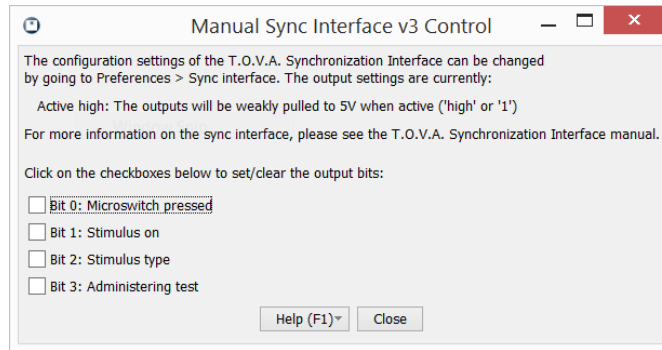

Figure 6: Testing the Sync Interface using the Manual Control dialog
3. Click on any of the four output checkboxes to activate the outputs of the sync interface (see Figure 6). You should be able to confirm with your equipment (or a volt meter) that each output turns on and off by clicking the checkboxes.